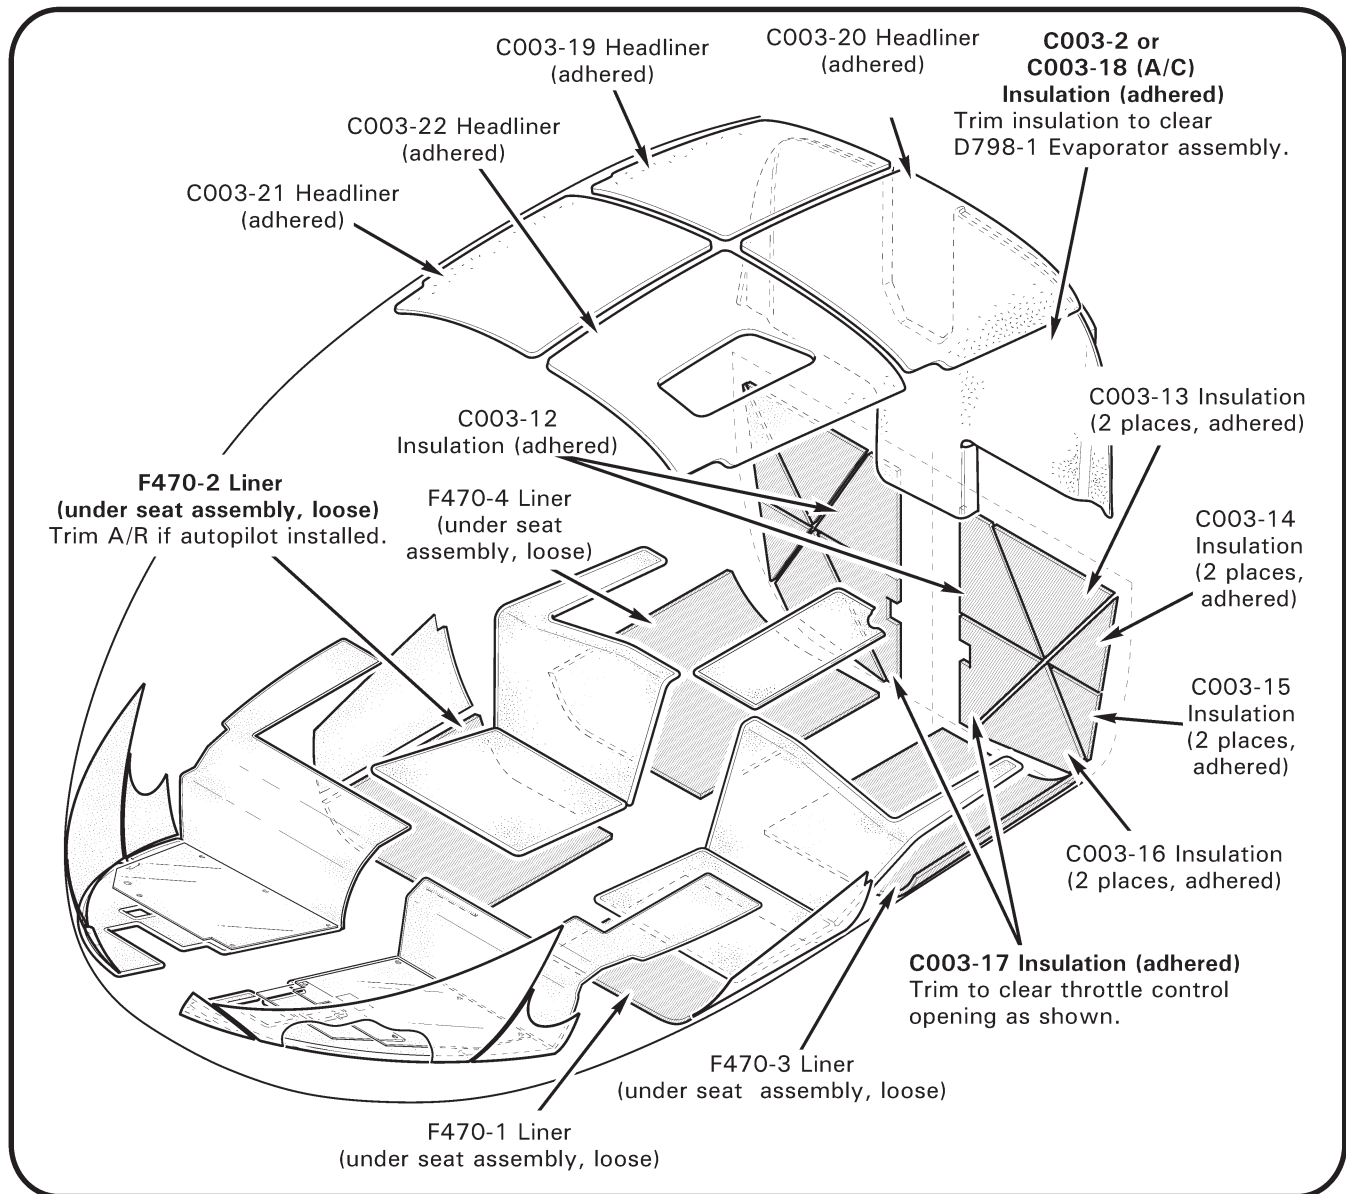

FIGURE 15-3 INSULATION AND HEADLINER
1. Refer to Figure 15-3 (observe notes for specific parts). Peel off insulation by hand. Using a plastic wedge or putty knife, carefully remove residual insulation and old adhesive. Wipe surface with a clean cloth, wet with acetone.